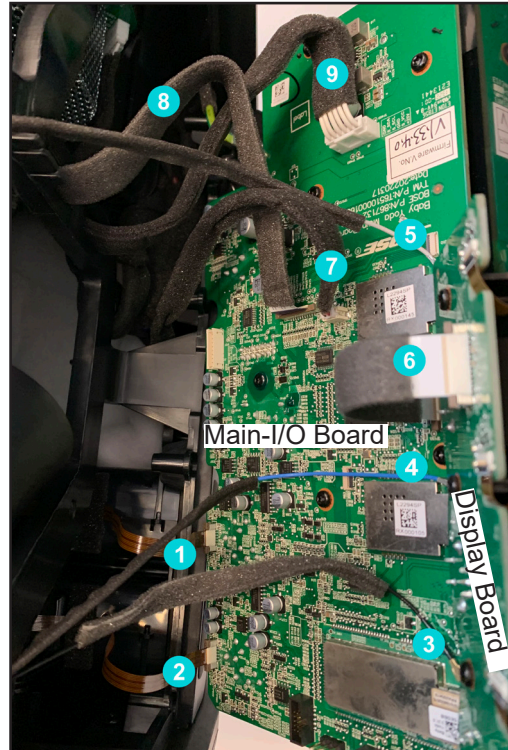

Figure 12. FFC Cables Direction
1.7 Once the I/O panel assy is out from the Cabinet you will notice that the 2 transmitter FFC cables ① ② & the 3 Antenna cables ③ ④ ⑤ are attached to the Main-I/O board and the 2 Transducer harnesses ⑧ ⑨ that connect to the Power board. FFC cable ⑥ connects to the Display board and cable ⑦ is to the Pole Switch board. See Figure 12.